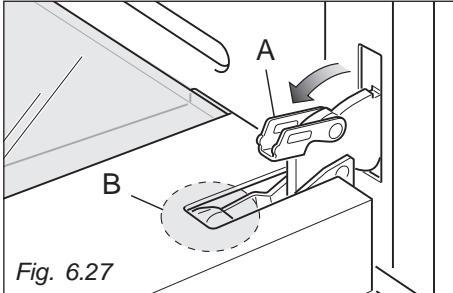
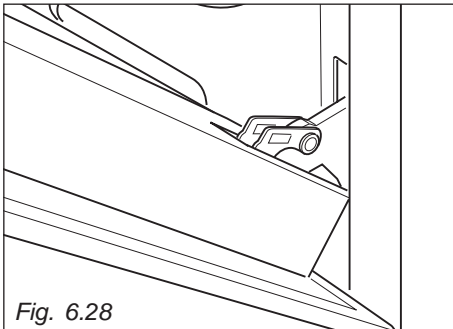

Fig. 6.27
Fig. 6.28
- Fully open the lever "A" on the left and right hinges. (fig. 6.27).
- Gently close the door (fig. 6.28) until the left and right hinge levers "A" are hooked to part "B" of the door (fig. 6.27).
1. Make sure the door is locked open (see fig. 6.28).